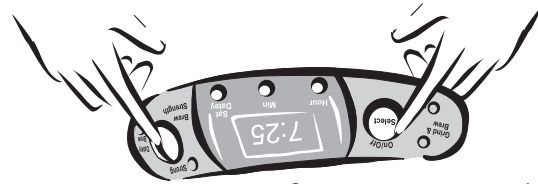

Figure 9
- Press the DELAY BREW button until it is flashing. Press the SELECT button twice until the BREW ONLY light turns on and the DELAY BREW light remains on but stops flashing. The coffeemaker is now set to automatically brew coffee at the pre-set time. See Figure 9. You may select the brew strength at this time.